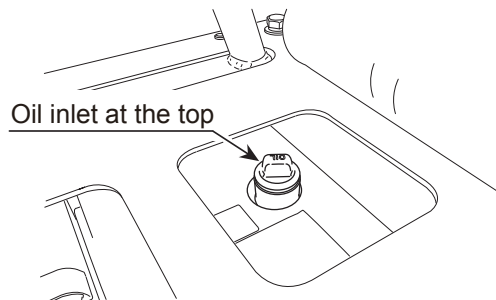

Figure 4. Adding Engine Oil
2. Lubrication is done from the top of the engine (Figure 4).